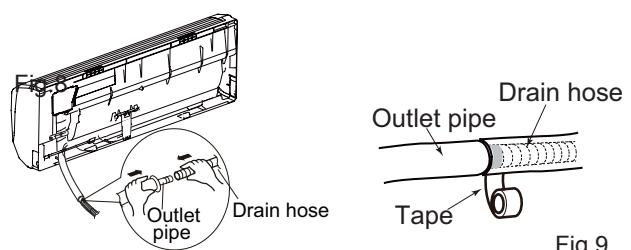

Fig.8 Fig.9
- (1) Connect the drain hose to the outlet pipe of indoor unit.(As show in Fig.8)